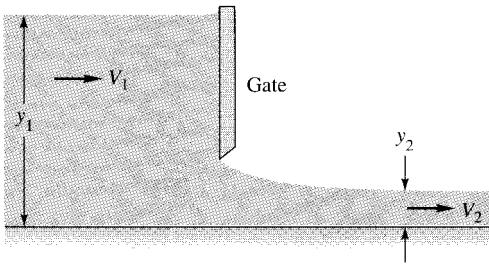

Fig. P10.69
**10.69** Given is the flow of a channel of large width  $b$  under a sluice gate, as in Fig. P10.69. Assuming frictionless steady flow with negligible upstream kinetic energy, derive a formula for the dimensionless flow ratio  $Q^2/(y_1^3 b^2 g)$  as a function of the ratio  $y_2/y_1$ . Show by differentiation that the maximum flow rate occurs at  $y_2 = 2y_1/3$ .
**10.70** In Fig. P10.69 let  $V_1 = 0.75$  m/s and  $V_2 = 4.0$  m/s. Estimate (a) the flow rate per unit width; (b)  $y_2$ ; and (c)  $Fr_2$ .
**10.71** In Fig. P10.69 let  $y_1 = 95$  cm and  $y_2 = 50$  cm. Estimate the flow rate per unit width if the upstream kinetic energy is (a) neglected; and (b) included.
**10.73** In Fig. P10.69 suppose that  $y_1 = 1.4 \text{ m}$  and the gate is raised so that its gap  $H$  is 15 cm. Estimate the resulting flow rate per unit width and the downstream depth.
**10.74** With respect to Fig. P10.69, show that, for frictionless flow, the upstream velocity may be related to the water levels by